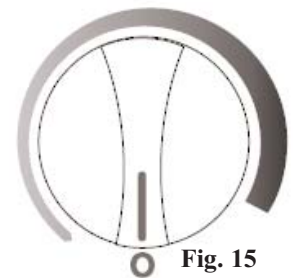

Fig. 15
- To turn off the freezer (no cooling), rotate the control knob to the “0”(off) position. See Fig. 15.